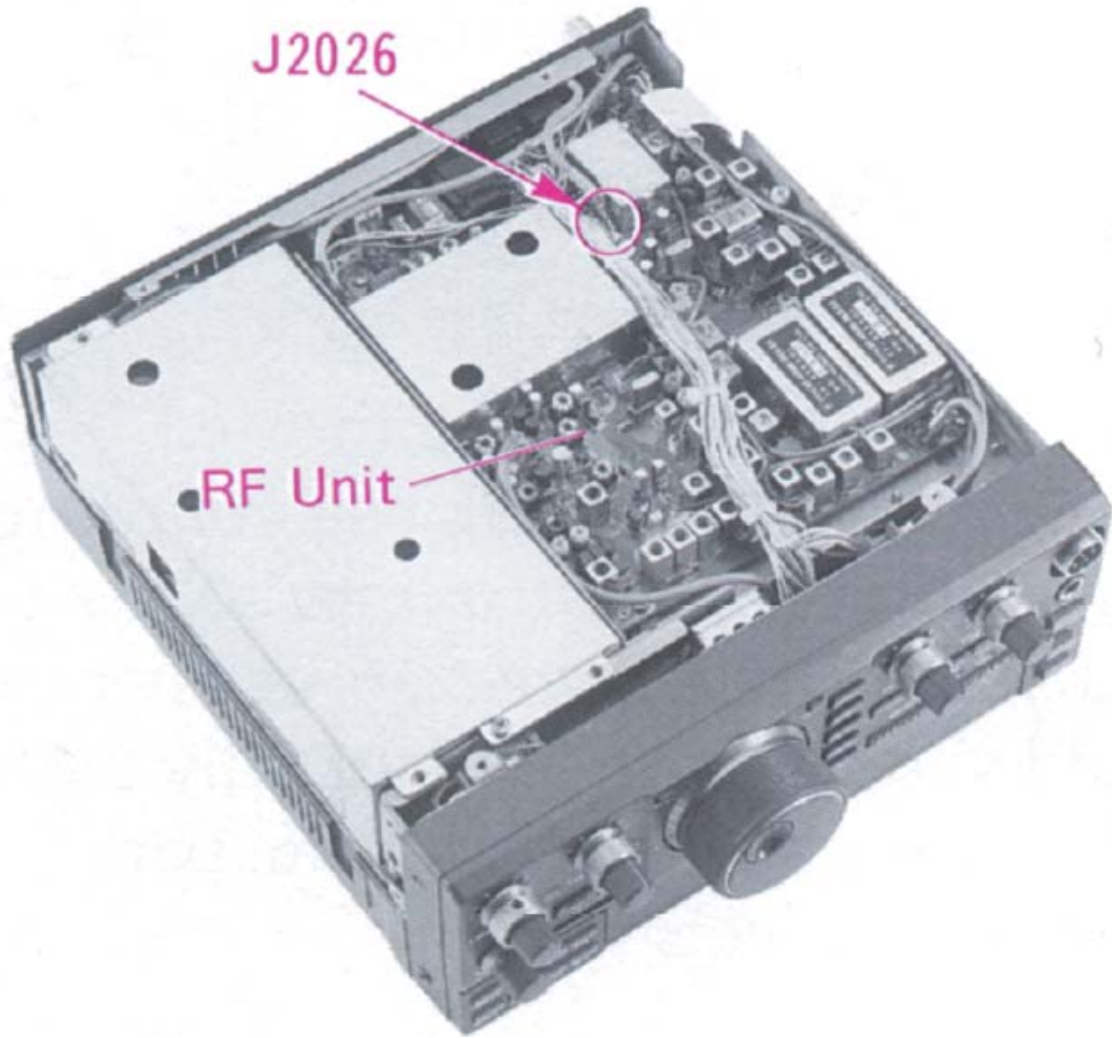

Figure 2-2.
3. Disconnect the light-blue-banded coaxial cable from J2026 near the rear of the RF Unit. See Figure 2-1, photo 3 above and Figure 2-2 below.
21. Don't forget to plug coax back into J2026 as seen in Figure 2-2.